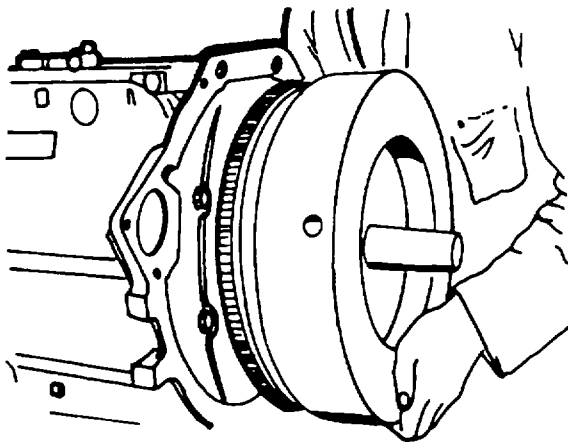

Figure 5-38. Installing Flywheel
50. Check for pressure of the key for the flywheel. The taper must be dry and free from grease. Insert mandrel No. 003-0674 in the crankshaft and mount the flywheel so that its groove engages the key (figure 5-38).